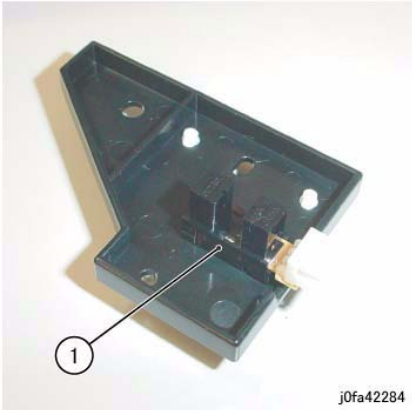

Figure 4 Removing the Rear Tamper Home Sensor
11. Remove the Rear Tamper Home Sensor (Figure 4):